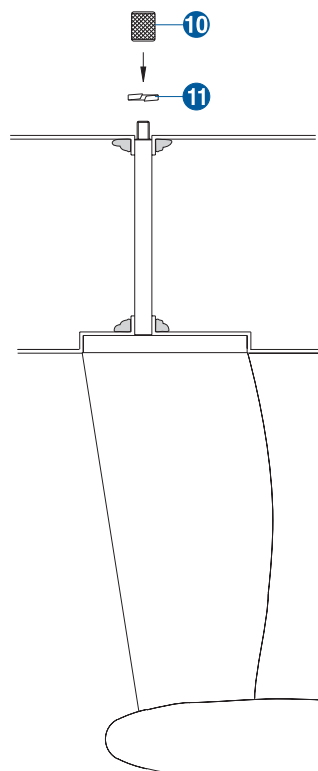

Fig. 10
4. Attach the keel to the hull as shown in Fig. 10 using the Knurled Nut **10** and Spring Washer **11**. When satisfied with the fit, you may remove and set aside the keel assembly, making the balance of the construction sequence easier. The weight of the keel can make it inconvenient when moving the hull around during assembly.